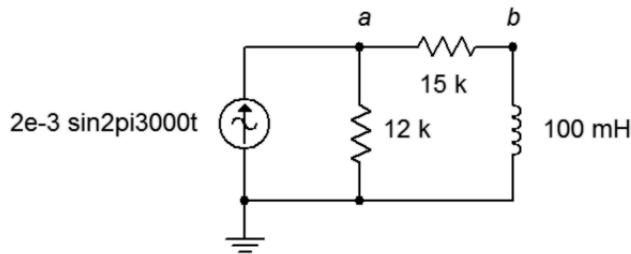

Figure 4.13
19. For the circuit of Figure 4.13, determine the currents each of the three components.
20. For the circuit of Figure 4.13, determine voltages  $v_a$  and  $v_b$ .